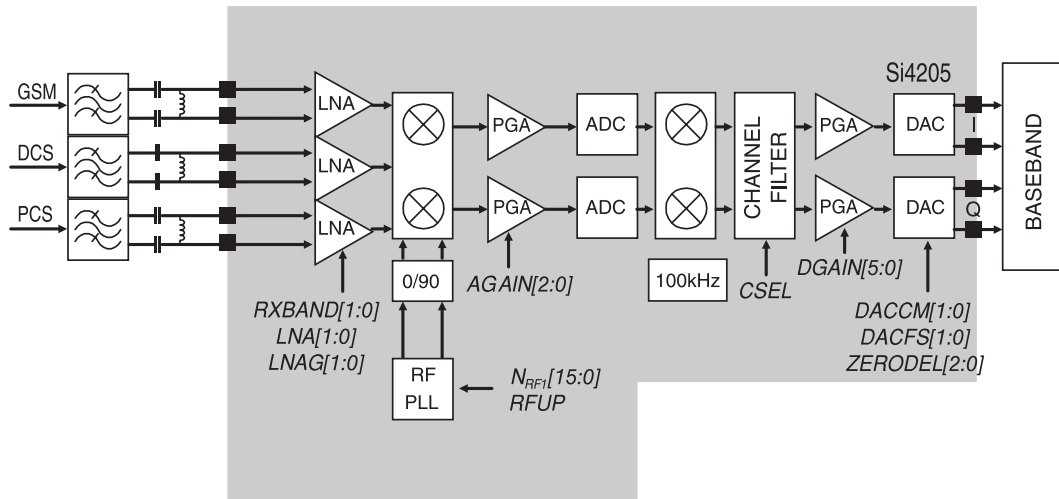

Figure 3-2. SI4205 RECEIVER PART
The LNA inputs are matched to the 150Ω balanced output SAW filters through external LC matching networks. The LNA gain is controlled with the LNAG[1:0] and LNAC[1:0] bits in register 05h (Figure 3-2).
B. Intermediate frequency (IF) and Demodulation
A quadrature image-reject mixer downconverts the RF signal to a 100kHz intermediate frequency (IF) with the RFLO from the frequency synthesizer. The RFLO frequency is between 1737.8 to 1989.9 MHz, and is internally divided by 2 for GSM 850 and E-GSM 900 modes. The mixer output is amplified with an analog programmable gain amplifier (PGA), which is controlled with the AGAIN[2:0] bits in register 05h (Figure3-2). The quadrature IF signal is digitized with high resolution A/D converters (ADCs).